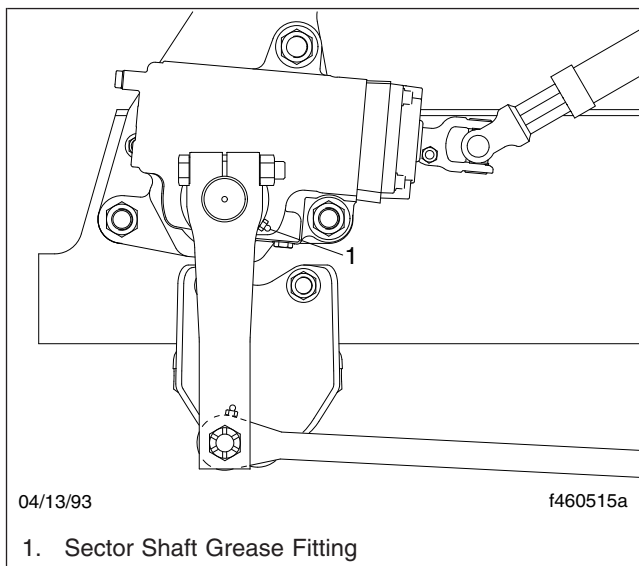

Fig. 4, Sector Shaft Lubricating
2. Using a hand-type grease gun, apply multipurpose chassis grease until the grease starts coming out of the sector shaft dirt and water seal. **Figure 4** shows the location of the sector shaft grease fitting.